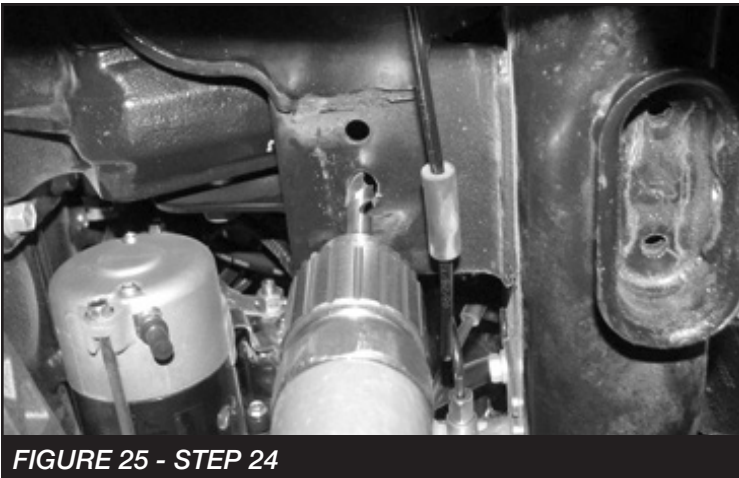

FIGURE 25 - STEP 24
24. Using a 1/2" drill bit, drill out the hole in the factory crossmember in-line with the factory bump stop mount. **SEE FIGURE 25**